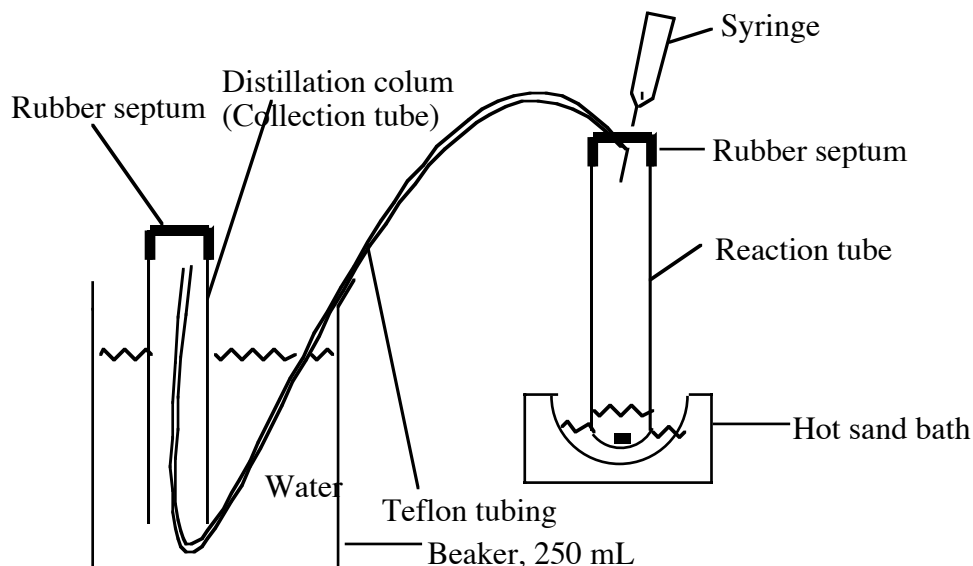

Fig. 1: Assembly for the Generation of Gaseous Products
Assemble the gas collection apparatus shown in **figure 1** below *before the reactants are mixed* by carrying out the following steps:
- (1) Fit the collection tube with a septum stopper in one end.
- (2) Fill the collection tube with water,
- (3) Insert the end of the Teflon tubing that is coming out from the top of the septa into the collection tube all the way up to reach the stopper.
- (4) Place your index finger over the top end of the tube and invert it (water should remain in the tube.)
- (5) Place the tube, with the open end down, into a 250-mL beaker half-filled with water.
- (6) Remove your finger (the column of water should remain in the tube.)
- (7) In the reaction tube, place 2 drops of concentrated sulfuric acid. Add a boiling stone, then place a rubber septum on top.
- (9) Connect the other end of the Teflon tubing to the reaction tube as shown in **figure 1**.